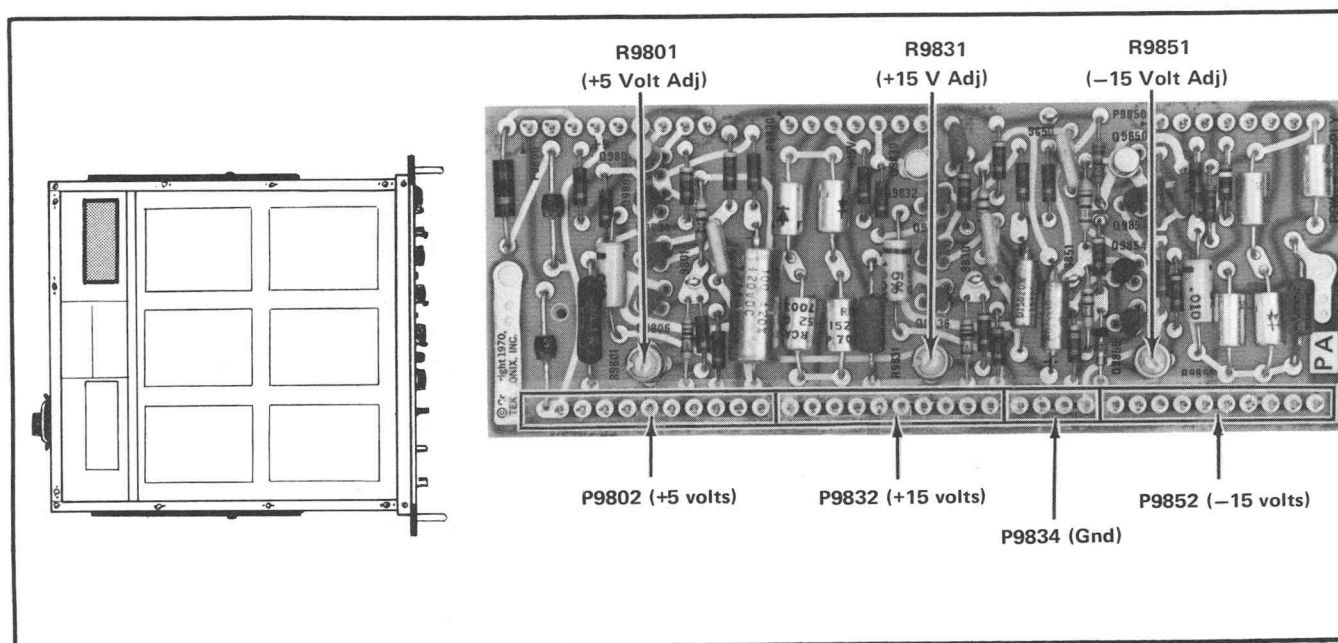

Fig. 4-4. Power Supply test point and adjustment locations.
a. Connect a precision DC Voltmeter between chassis ground (pin 1 of P9834) and P9852 (-15 volts), see Fig. 4-4.